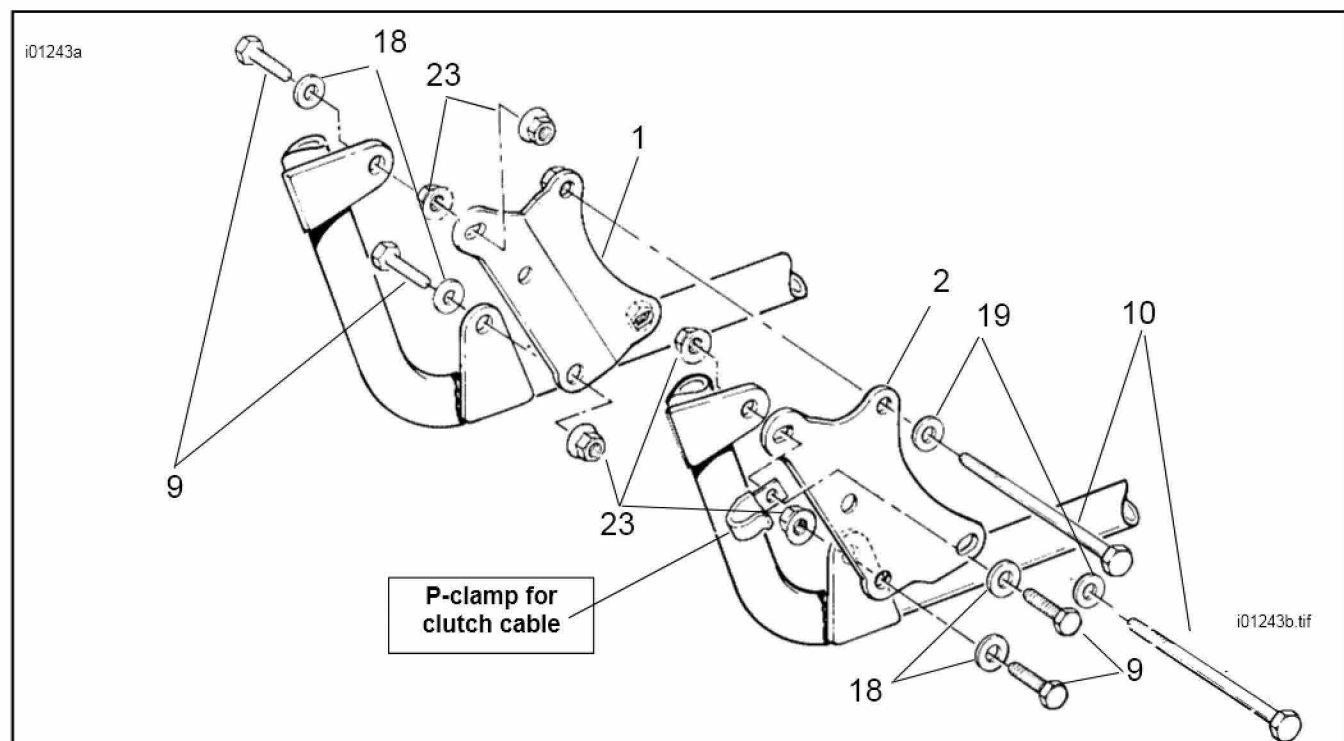
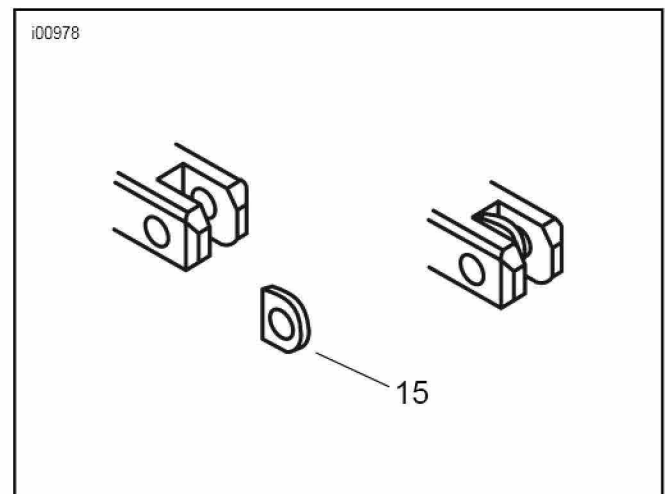
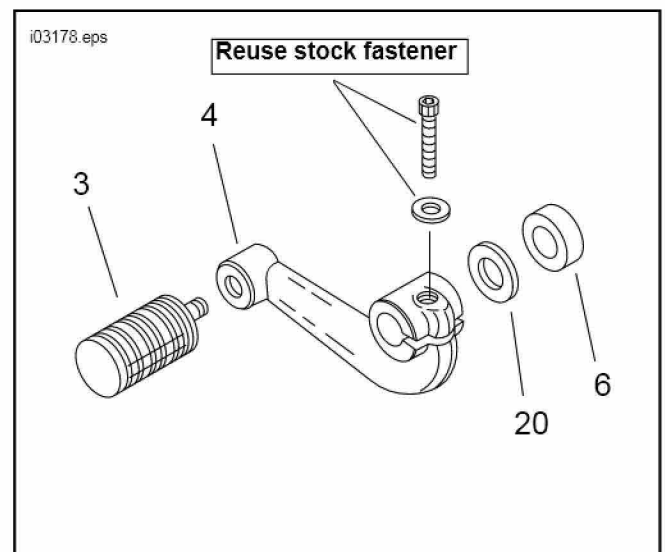

Figure 1. Front Motor Mounts
Figure 3. Footrest
Figure 4. Shifter Assembly
3. See Figure 1. Remove left side motor mount and save P-clamp for clutch cable. The bolts will be replaced.
4. Install left side motor mount (2) in place of stock motor mount using washers (19), bolts (9 and 10) and locknuts (23) from kit. Tighten bolts to 25-30 ft-lbs (41-47 Nm). Make sure to reinstall the P-clamp and clutch cable in the same hole location they were removed from in step 3.
5. See Figure 4. Install shift lever (4) from kit using stock fastener; rubber washer (20) and oil seal (6). Tighten Pinch bolt to 80-110 in-lbs.
- 6.. To install footrest, place a spring washer (15), along with the mount end of the footpeg, inside the slots of the clevis. Make sure the spring washer is positioned inside the clevis with the square edge towards the inside as shown in Figure 3. Secure footpeg and spring washer with bolt (11) and locknut (22). Tighten locknuts to 19 ft-lbs (26 Nm). Install footrest support (16) with bolts (25). Tighten bolts to 16-28 ft-lbs.
7. See Figure 1. Remove right side stock motor mount and save nuts and washers. The bolts will be replaced.
9. Install right side motor mount assembly in place of stock motor mount using washers (18) and nuts (23). Tighten bolts to 25-30 ft-lbs (41-47 Nm).
10. Install brake pedal assembly (8) into master cylinder by turning push rod at flats to thread on rod end.
11. To install footrest, place a spring washer (15), along with the mount end of the footpeg, inside the slots of the clevis. Make sure the spring washer is positioned inside the clevis with the square edge towards the inside as shown in Figure 3. Secure footpeg and spring washer with bolt (11) and locknut (22). Tighten locknuts to 19 ft-lbs (26 Nm).